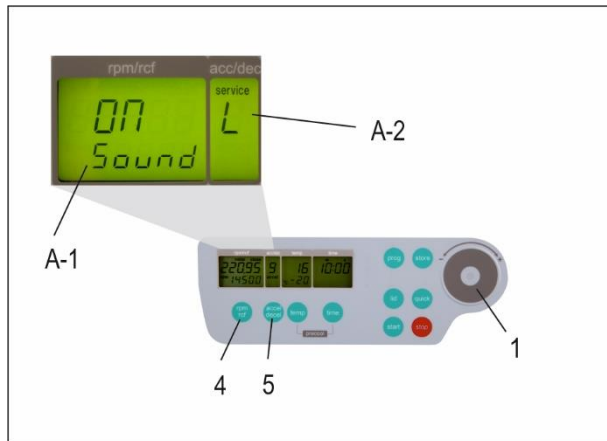

Figure 8
Proceed as illustrated, under point 1.8.1, to enter this program mode, press the key; "accel/decel" (5). In the display, "accel/decel" (A-2) flashes the word, "service". Select the letter, "L" with the control field (1). As a result, appearing in the display "rpm/rcf" (4), are the words, "On Sound". By pressing the key, "rpm/rcf" (4), the word "On" flashes, and the sound can be switched off with the control field (1), (see Figure 8).